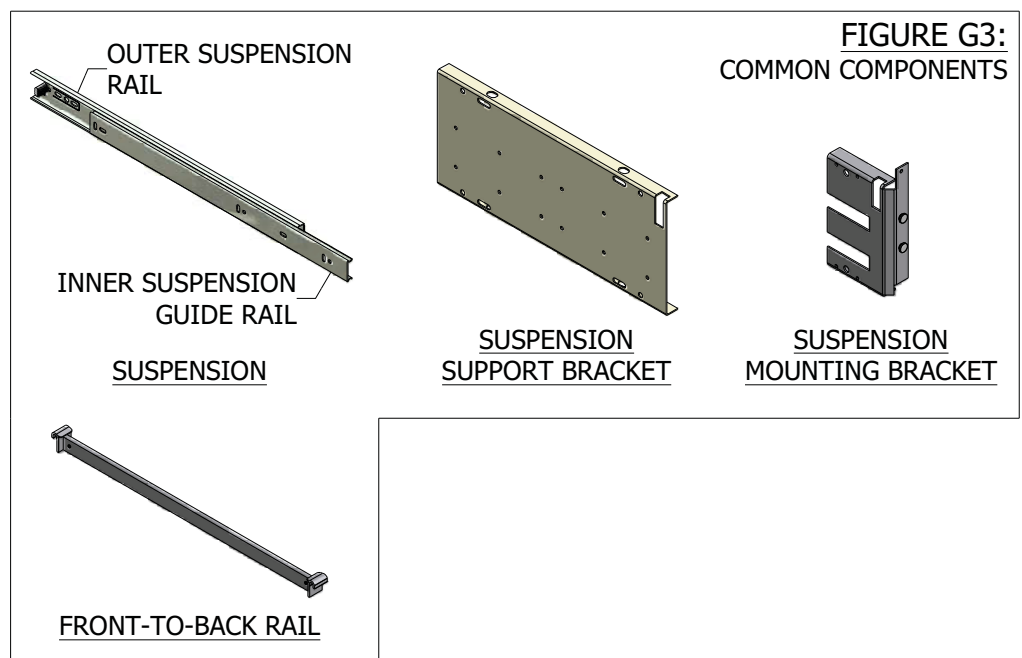

FIGURE G3:
- 3.0 SEE FIGURE G3 FOR COMPONENT TERMINOLOGY THAT WILL BE USED THROUGHOUT THIS DOCUMENT.